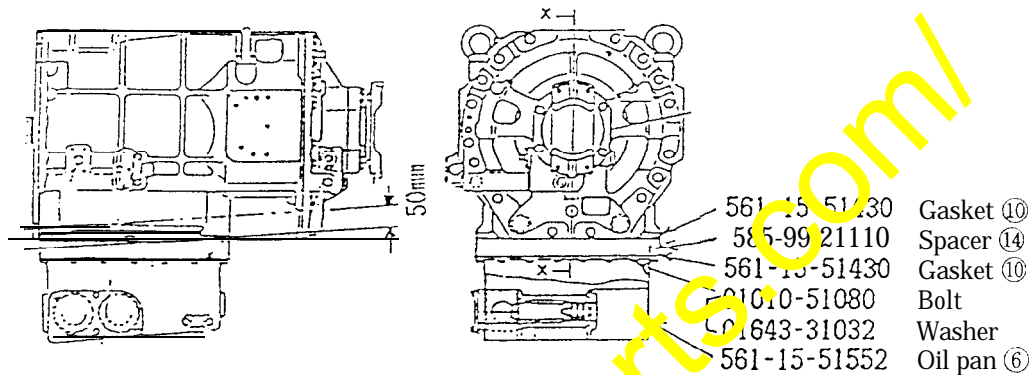

Fig. 7
- (6) Install T/M oil pan ⑥, spacer ⑭, gasket ⑩ to T/M case. (See Fig. 7)